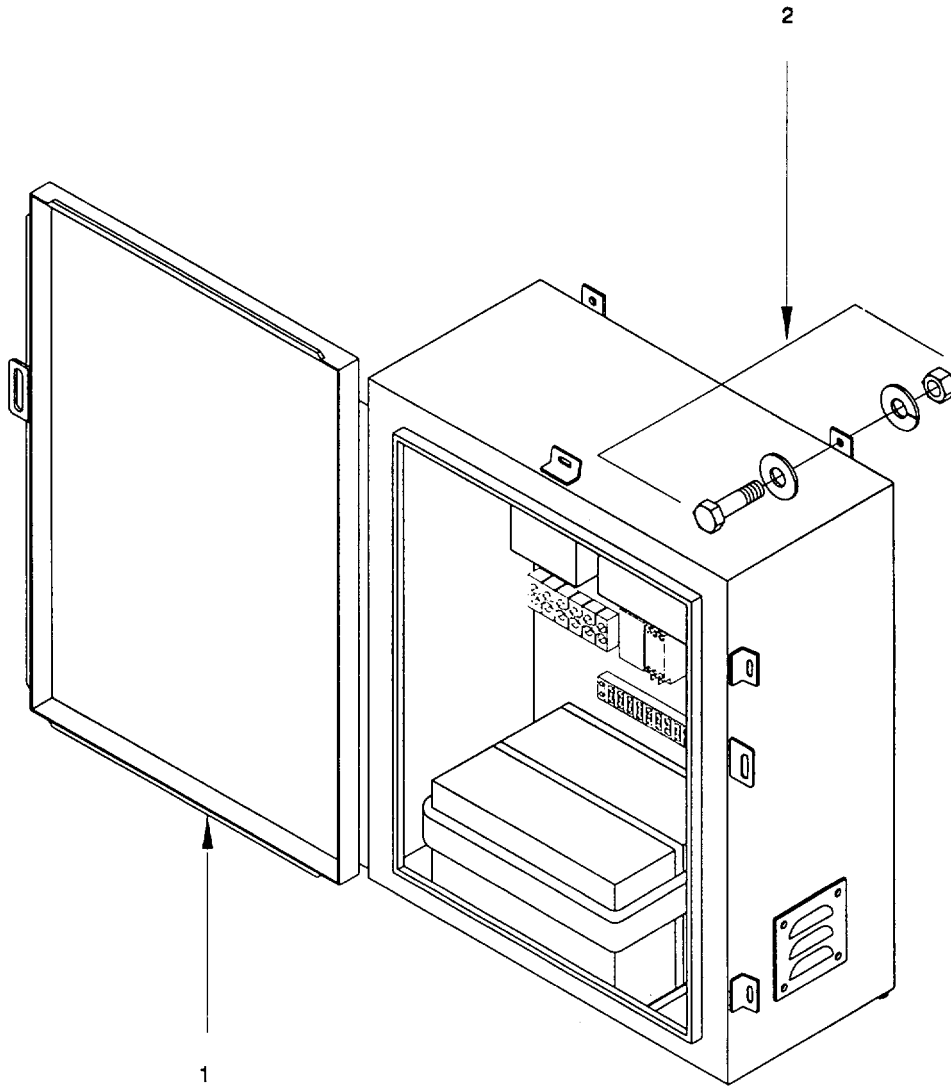

Figure 2-76. Pump-Jet Direction/Auxiliary Junction Box "A9", Remove/Install.
a. Remove. (figure 2-76)
- (1) Open enclosure door to access interior of junction box (1).
- (2) Disconnect electrical wiring to junction box A9 (1) and tag OUT OF SERVICE.
- (3) Remove four sets of hardware (2) securing junction box to hull.
- (1) Inspect all electrical components for corrosion, deterioration, dirt, condensation, loose hardware or electrical wiring connections, or other damage. Repair is limited to replacement of components.
- (2) Remove any dirt or condensation with a clean, lint-free cloth.
c. Install. (figure 2-76)
- (1) Position junction box A9 against hull and secure with four sets of hardware (2).
- (2) Connect electrical wiring to junction box A9 (1). Refer to Appendix G.
- (3) Close junction box (1).